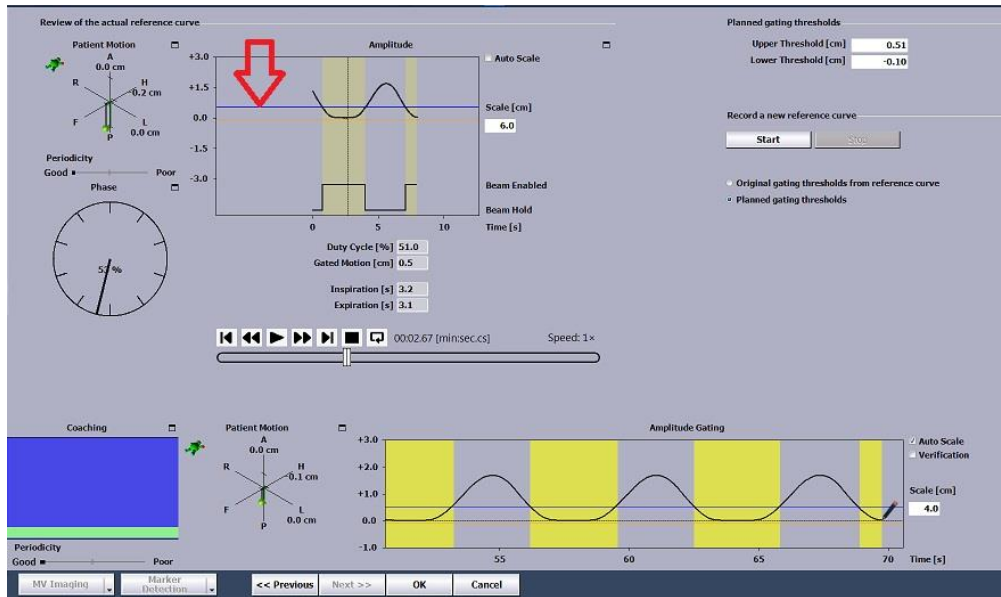

Figure 54: Changing Threshold on Reference Curve
- The acquired reference curve shall be shown as in Figure 54. Drag the blue and orange gating threshold lines on the reference curve to set a desired gated period. Select **OK** to continue.